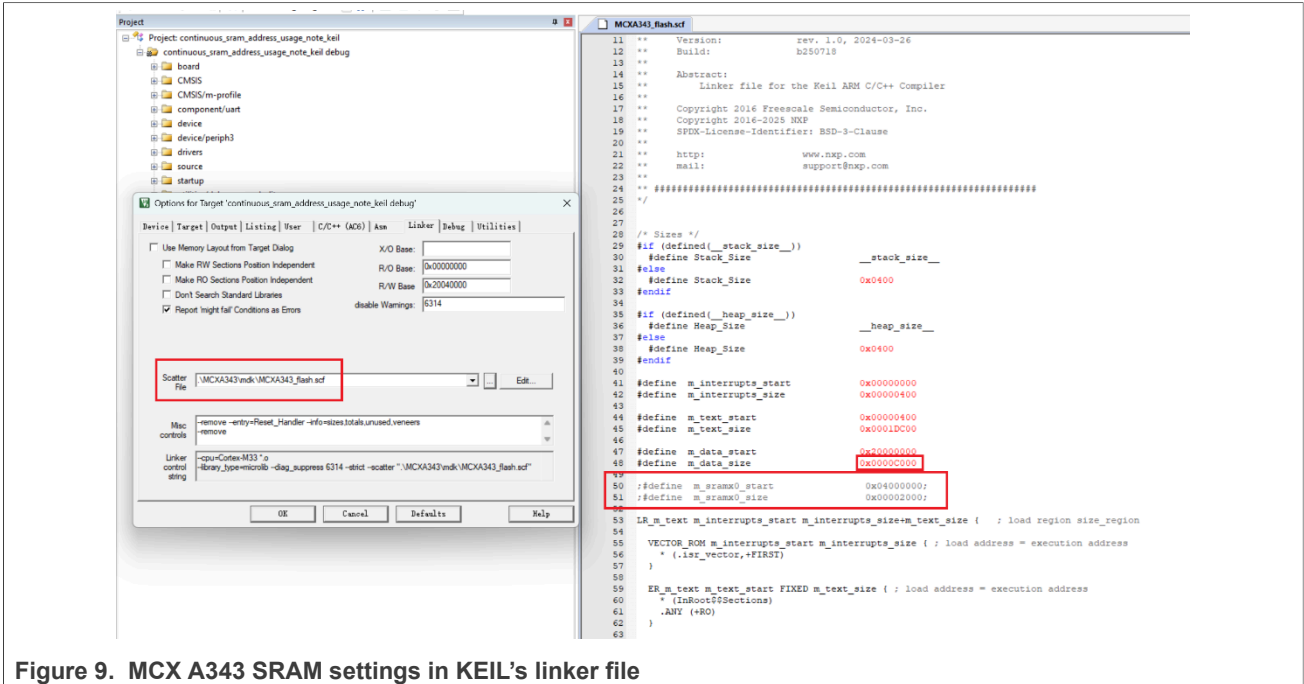

Figure 9. MCX A343 SRAM settings in KEIL's linker file
- For MCX A343, as shown in Figure 9: